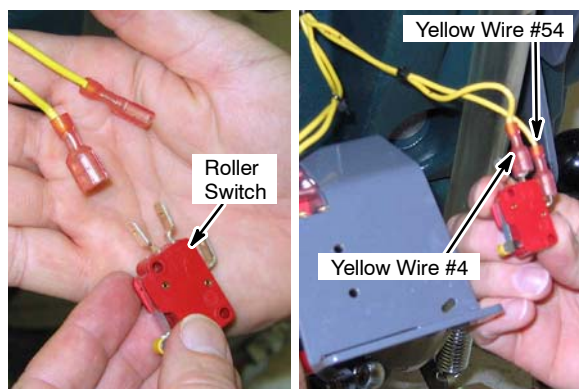

Fig. 11
11. Connect the two yellow wires to the roller switch as shown (Fig. 11).